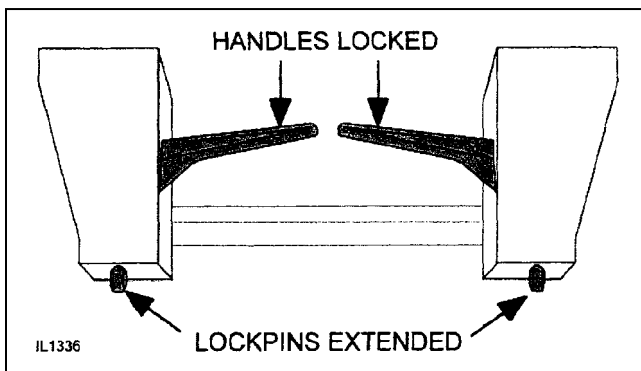

Figure 3. Attachment Coupler Handles - Locked
7. Engage the latching mechanism to secure attachment to loader. The lockpins must be completely extended and secured into the retaining slots provided on the attachment. Figure 3.